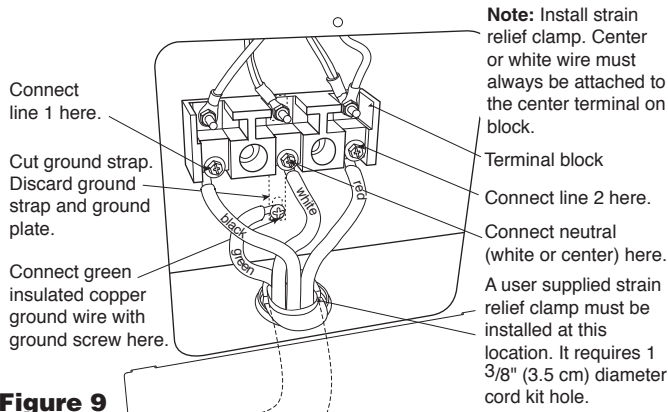

Figure 9
- 2 Connect the end connectors for line 1, line 2 and neutral and tighten securely to the terminal block. See Figure 9.
- 3 You must disconnect the ground strap. Remove the factory installed ground screw and plate to release the copper ground strap from the frame of the range. Cut and discard the copper ground strap and plate. KEEP the ground screw. See Figure 9.
- 4 Connect the green ground wire lead with the eyelet to the frame of the range with the ground screw using the same hole in the frame where the ground screw was originally installed. See Figure 9.